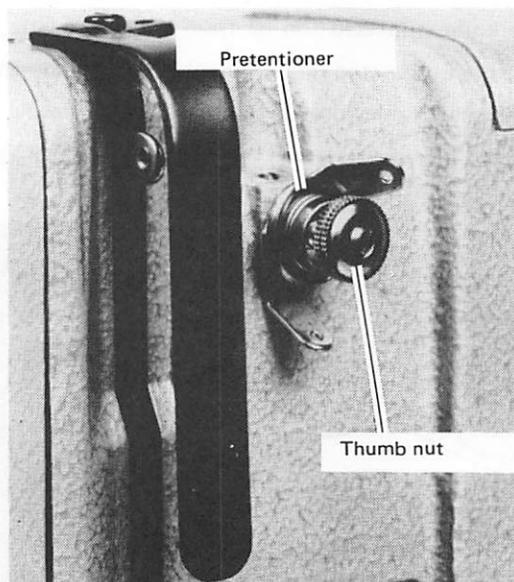

Fig. 10.16
- (4) Trimmed needle thread tail length can be adjusted by turning the pretensioner thumb nut shown in Fig. 10.16.